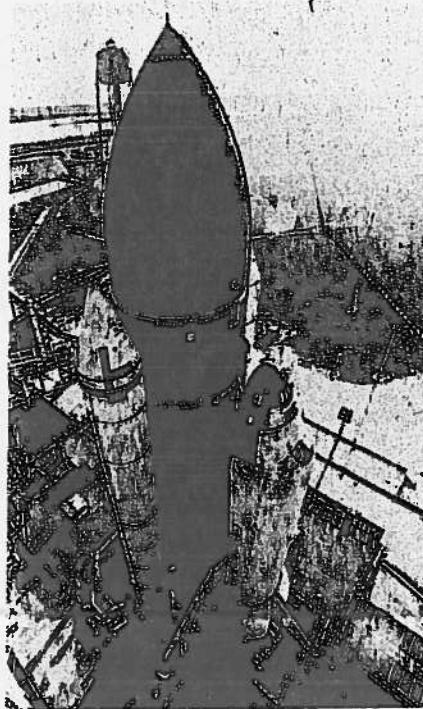

Fig. H-4-5.
- The United States is now the leader in rocket research. Such research is conducted by NASA (National Aeronautics and Space Administration). Figs. H-4-5 and H-4-6.